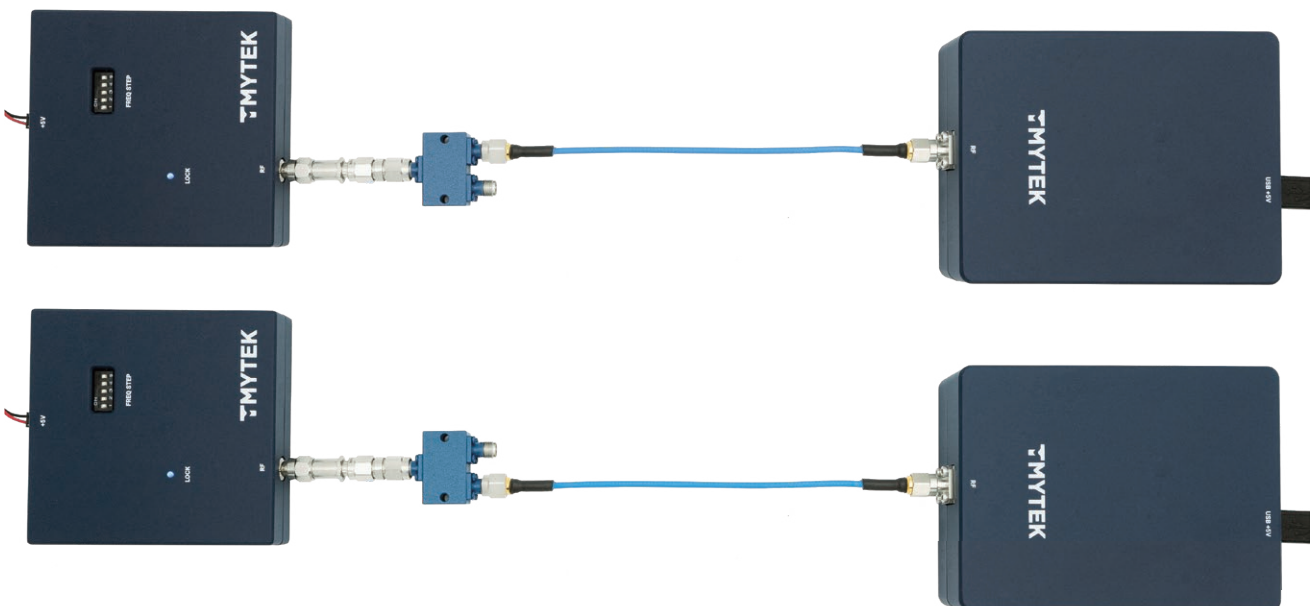

Figure 6. PLO + Attenuator + Adapter + Power Splitter + Cable
- c. Place the power splitter between the attenuator and the cable. The 2.92 mm to 2.92 mm adapter is required to connect the attenuator to the combiner port as shown in Figure 6. Then, monitor and record the power readout. As the power splitter is a 1:2 power splitter, you will need to unplug and replug the cable into the other port to monitor and record the readout as well.